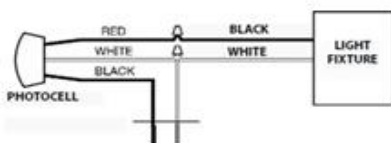

Fig.1
2. Install the photocell and wire as per diagram Fig. 1.